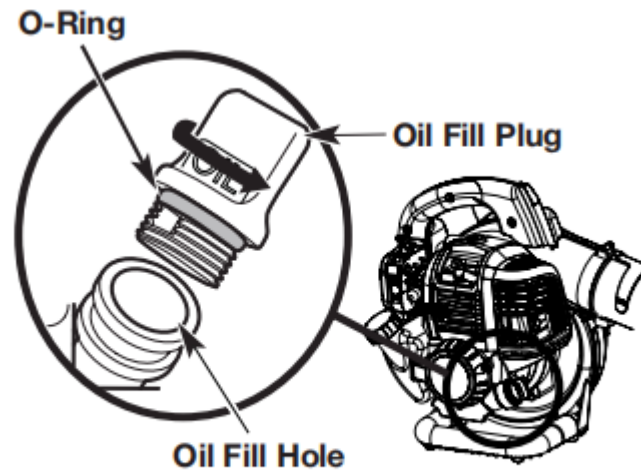

Fig. 4
- b) Unscrew the oil fill plug (Fig. 4).
- c) Pour the entire container of oil into the oil fill hole (Fig. 4).
Note: Make sure the O-ring is in place on the oil fill plug (Fig. 4).